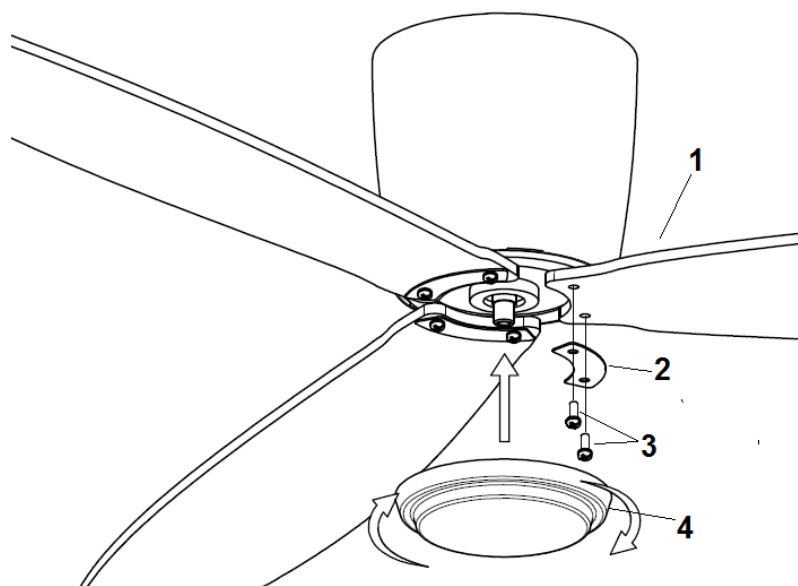

Fig. 6
- Insert the blade screws through **the** blade **assembly in the following order** - bracket kit (2) and blade (1). Attach the blade **assembly** to **the** motor and secure it by tightening the 2 screws (3). **Fig. 6**
- Finally install the bottom cover (4) to **the** shaft of **the** motor by rotating it clockwise.